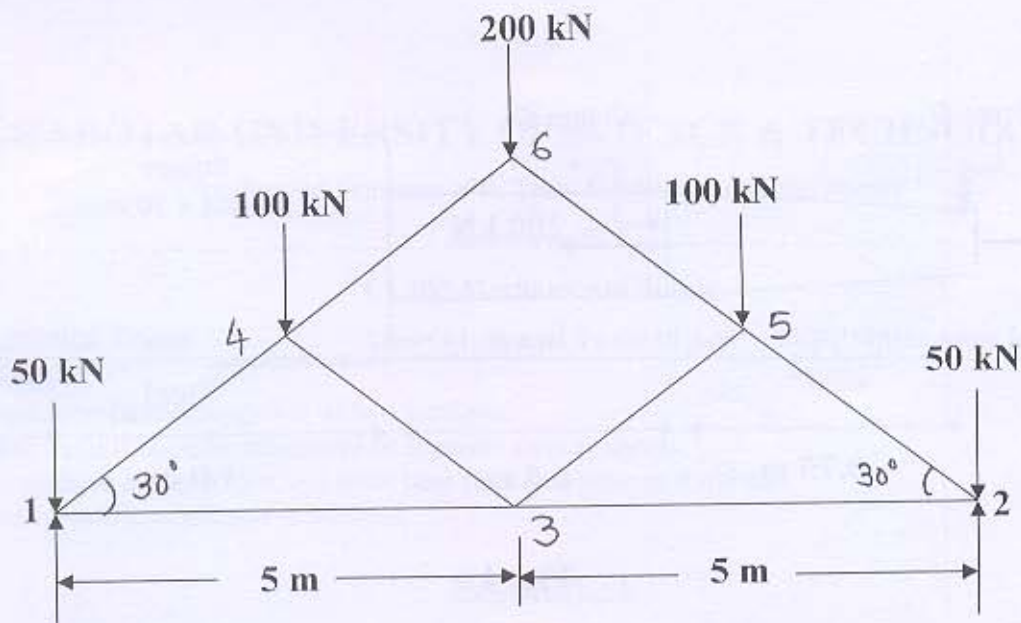

Fig. 1
- Q - 1 Determine the forces in all members of a truss shown in Figure 1. [07]